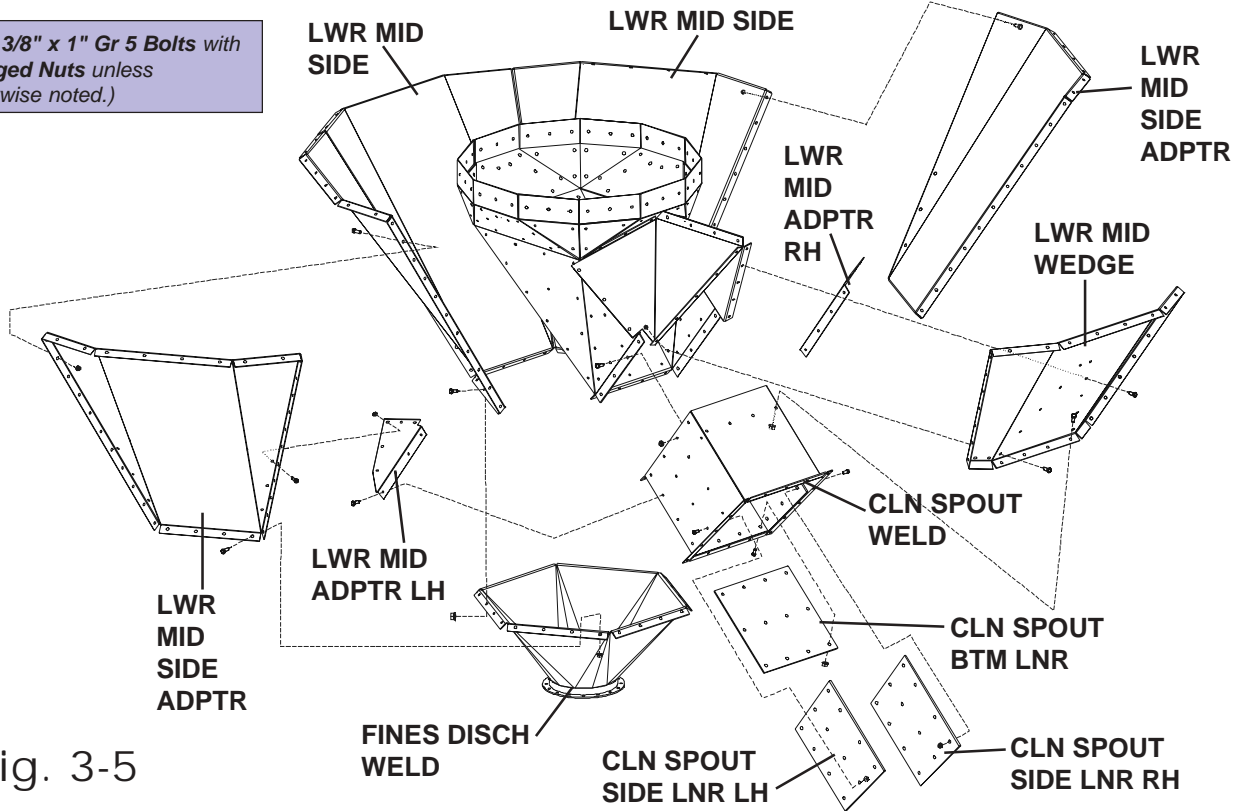

Fig. 3-5
5. Assemble additional **LWR TOP SIDE, LWR TOP UPPER, & RING BM WELDS** sections in this same fashion at their predetermined locations. Identify the **LOWER MID SIDE ADPTR** (they have extra holes see Fig. 3-5) and install them on each side of the Clean Grain Discharge location. The Support Legs and Construction Legs are useful for temporary support of the Ring Beams Panels as assembly progresses. Scalper/Screeners which use the GSI Integral Platform require only the top two holes be used at this time, otherwise connect the Ring Beam panels together using three 1/2" x 1-1/2" Grade 8 bolts and flanged nuts as shown. (See Fig. 3-2) **Do not tighten** the bolts at this time.
7. Using proper lifting equipment, lift the **Clean Grain** discharge into place, and connect the assembly to the **LOWER MID SIDE ADPTR** panels. Use 3/8" X 1" grade 5 bolts and seal between seams with mastic. (See Fig. 3-5) Note that this assembly **does not bolt** to the **FINES DISCHARGE WELDment**. Install the **LWR MID SHED LH** and **RH** and the **LWR MID WEDGE** panel to stabilize the Whole Grain Discharge. (See Fig. 3-4 & 3-5)